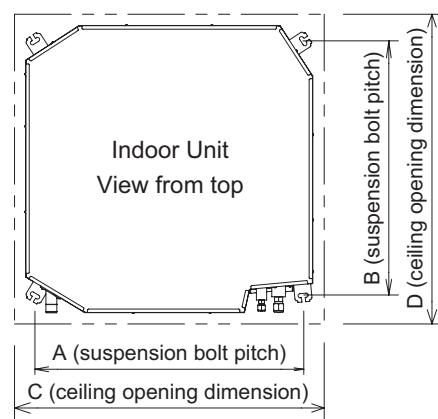

Fig. 2-42
- (2) Follow Fig. 2-42 and Table 2-13 to make the holes in the ceiling.